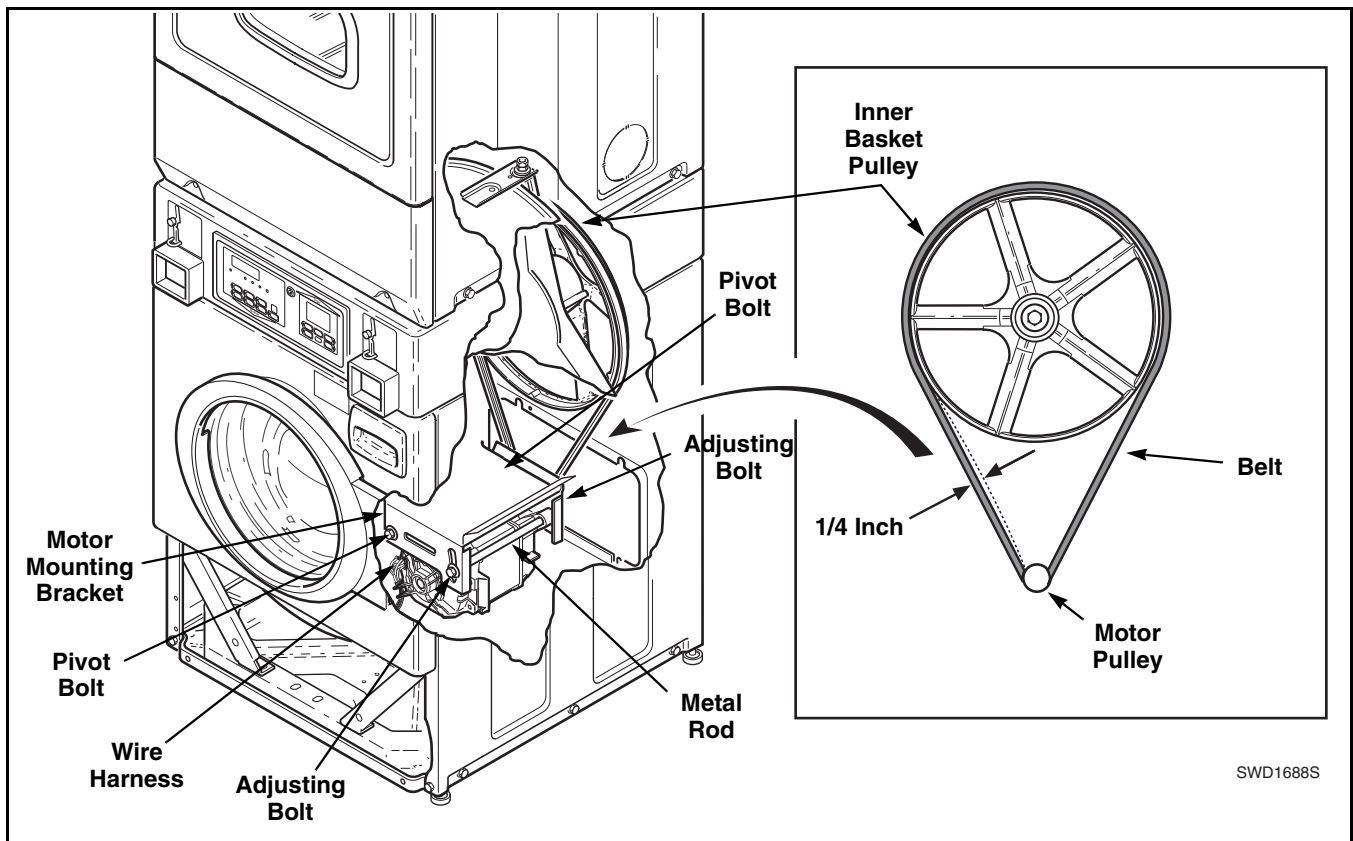

Figure 15
- Working through the access door opening, place a locking pliers on the metal rod and loosen the two adjusting bolts. Refer to *Figure 15*. Repeat procedure to loosen the two pivot bolts. Refer to *Figure 15*.
- Pull down on motor to increase belt tension. Use a Burroughs belt gauge to obtain proper tension. Proper belt tension is obtained when belt can be deflected approximately 1/4 inch (6.35 mm) from normal position when moderate pressure 50 to 60 pounds (22.68 to 27.22 Kg) is applied to a point midway between pulleys. Refer to *Figure 15*.
- After proper belt tension has been obtained, tighten belt adjusting bolts firmly, then tighten pivot bolts. Refer to *Figure 15*.